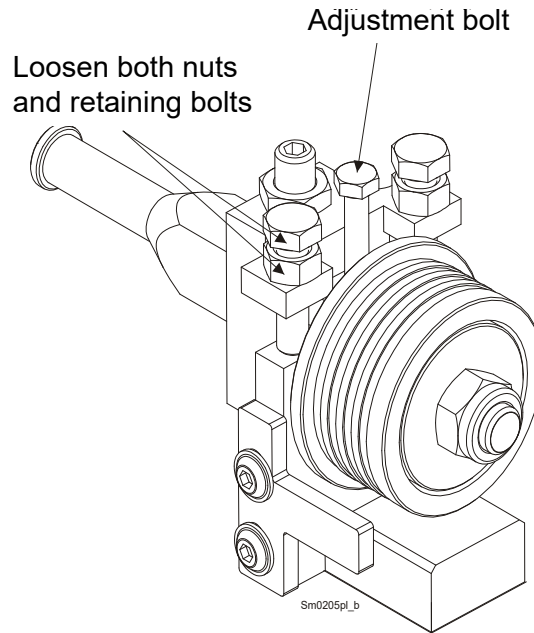

FIG. 5-27
**See Figure 5-27.** Loosen both nuts and retaining bolts. Use the adjustment bolt to raise or lower the disc until its distance from the blade is 0.3 - 0.5 mm. Then retighten the retaining bolts so that the disc is parallel to the blade. Retighten the retaining bolt nuts.